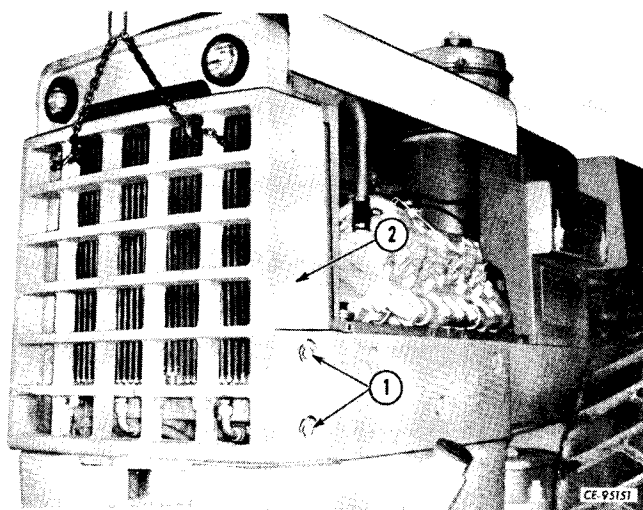

Figure 2-48
Using a suitable hoist, lift and position grille (2, Fig. 2-48) on tractor frame. Install and tighten cap screws and nuts (1) on each side of grille.